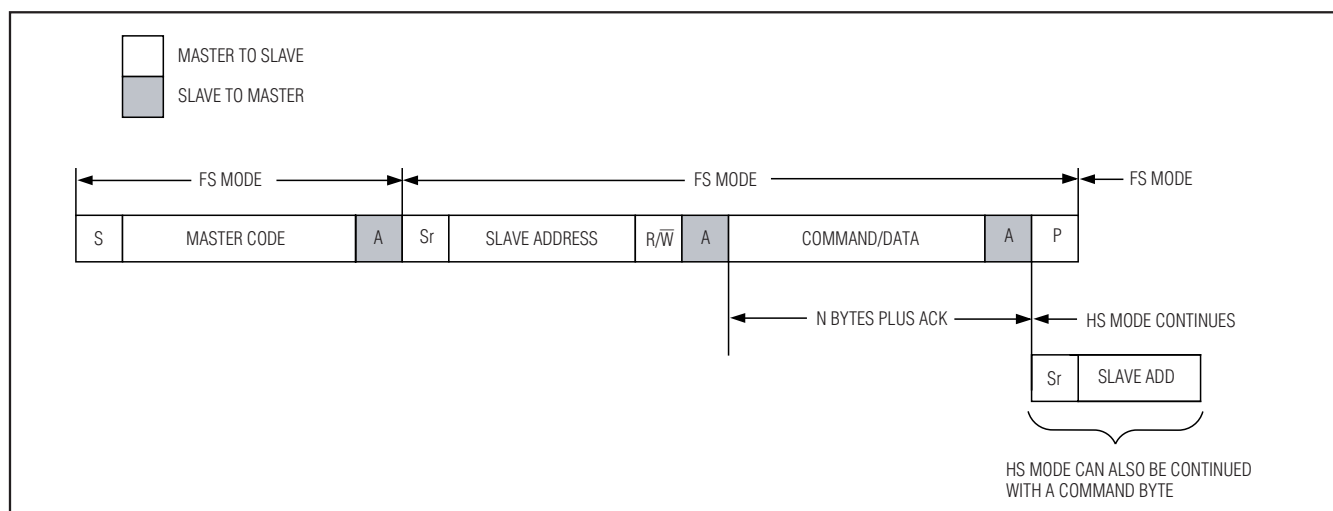

Figure 22. Changing to FS Mode or Staying in HS Mode
- 1) Generate a START condition (S).
To remain in HS mode, use repeated START conditions (Sr) in place of the normal STOP conditions (P) (see Figure 22). All the same write and read formats supported in FS mode are supported in HS mode (with the replacement of repeated START conditions for STOP conditions). Generating a STOP condition (P) while in HS mode changes the bus speed back to FS mode.